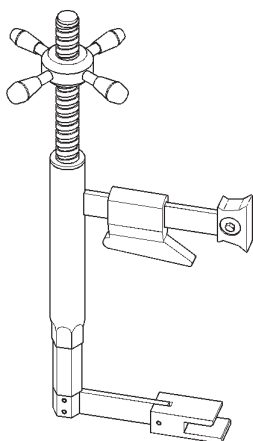

Figure 1.4-1
**#EAA0247G11A - Bead Depressor Clamp** (Fig. 1.4-1)